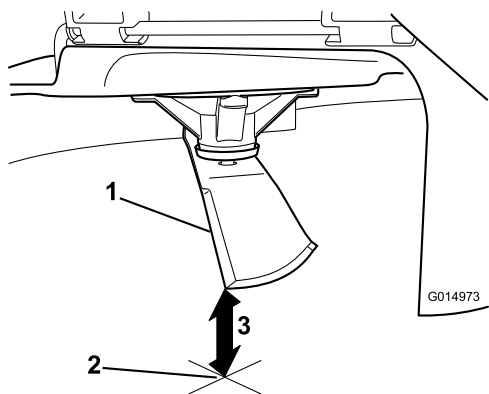

**Figure 55**
3. Measured distance between blade and the surface (A)
4. Rotate the same blade 180 degrees so that the opposing cutting edge is now in the same position (Figure 55).